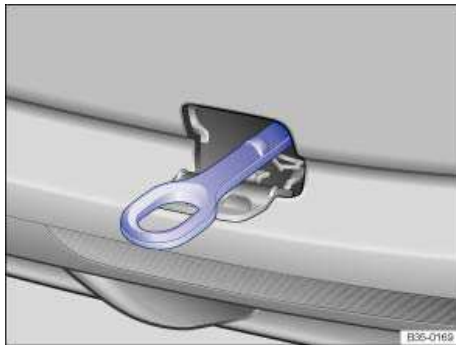

Fig. 210 In the right rear bumper: Towing eye installed.
- Screw the towing eye **counterclockwise** into the threaded hole as far as it will go ⇒ fig. 210 ⇒ .